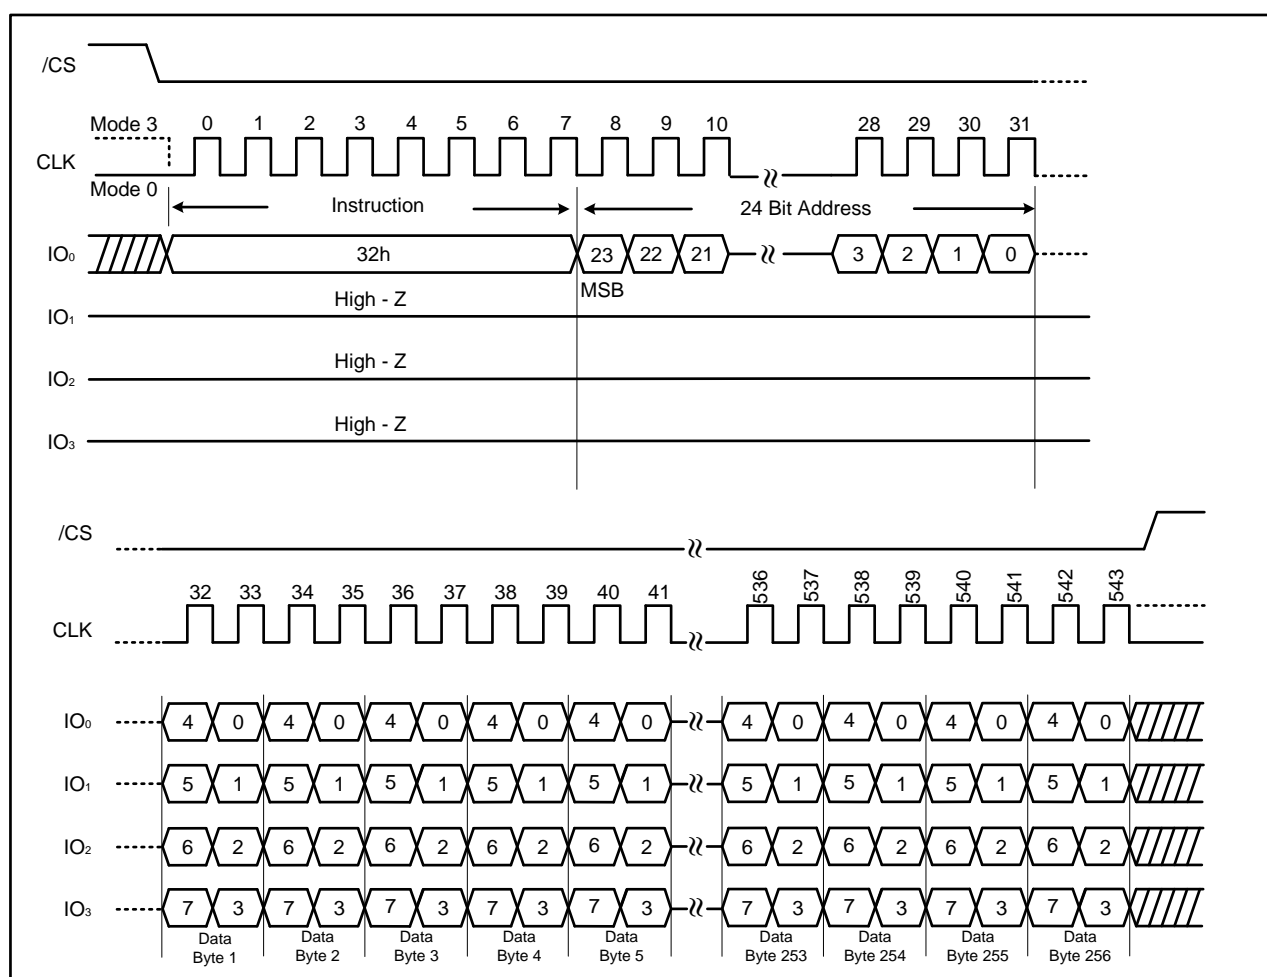

Figure 31. Quad Input Page Program Instruction (SPI Mode only)
To use Quad Input Page Program, the Quad Enable (QE) bit in Status Register-2 must be set to 1. A Write Enable instruction must be executed before the device will accept the Quad Input Page Program instruction (Status Register-1, WEL=1). The instruction is initiated by driving the /CS pin low then shifting the instruction code "32h" followed by a 24-bit address (A23-A0) and at least one data byte, into the IO pins. The /CS pin must be held low for the entire length of the instruction while data is being sent to the device. All other functions of Quad Input Page Program are identical to standard Page Program. The Quad Input Page Program instruction sequence is shown in Figure 31.